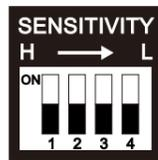

Fig. 2
1. Set the Sensitivity DIP switch 1-4 to the OFF position as shown in Figure 2.